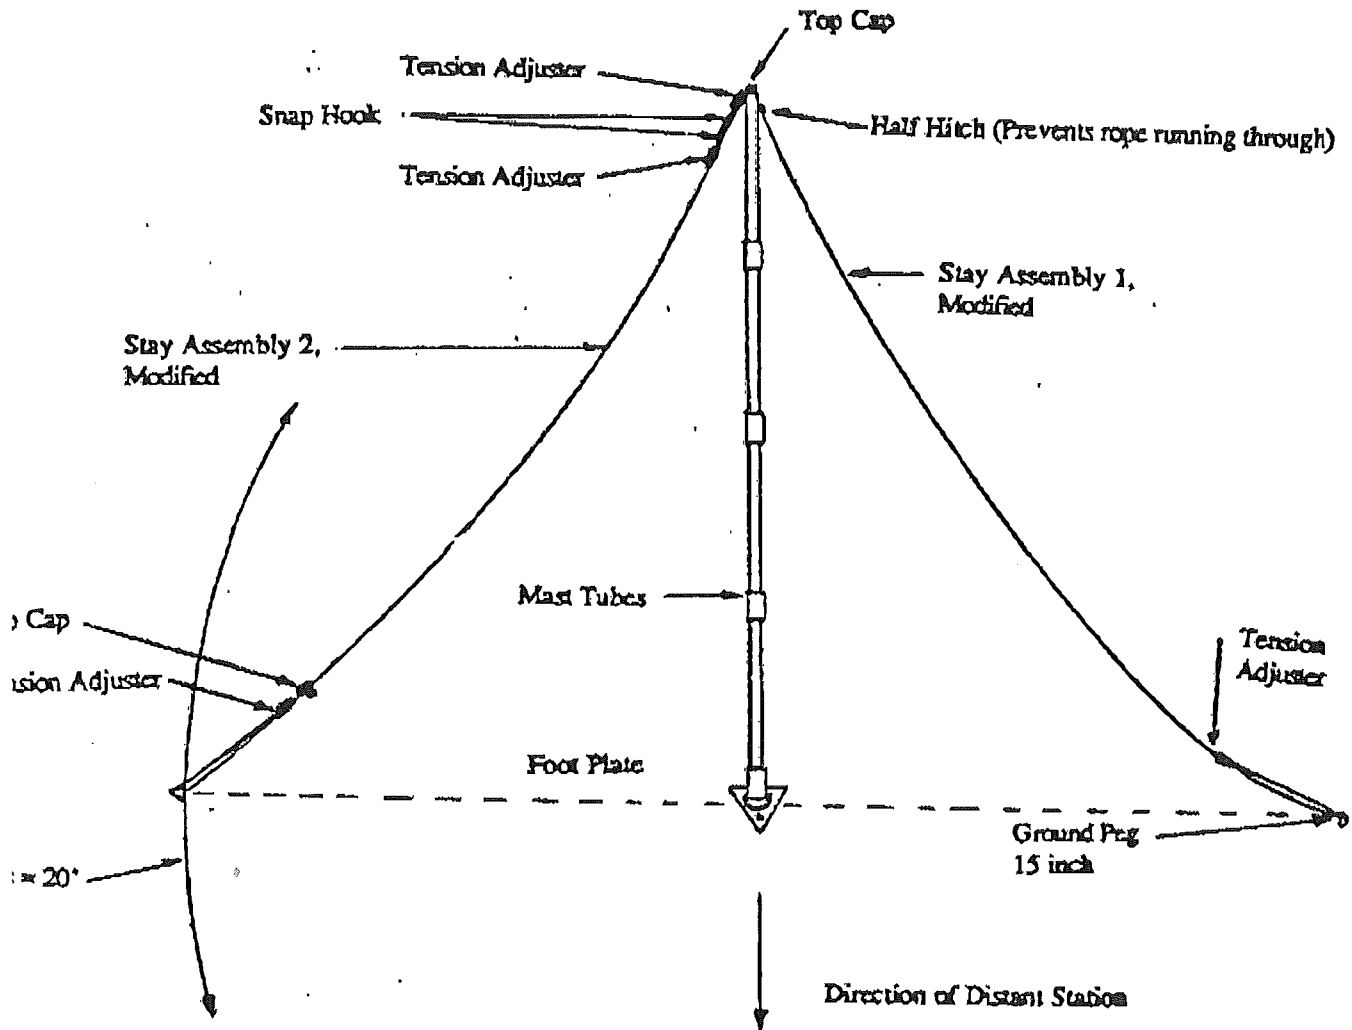

Figure 5-3. Geometry of 20° Minimast
- Step 8 Attach the top hook of the second Stay Assembly to the top hook of the first Stay Assembly. Attach the lower hook of the second guy rope to the second steel Ground Peg. Take out most of the slack in both guy ropes by using the tensioner adjusters adjacent to the ground pegs. Leave some slack so that the mast may be maneuvered upright when required. See Figure 5-3.